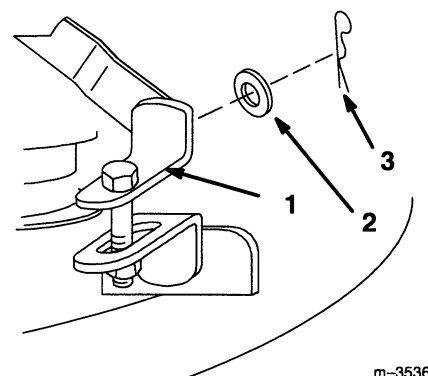

Figure 12
4. Remove (2) 2-9/16" hairpin cotters and (2) 1/2" washers from front adjustable links and remove from front lift arm (Fig. 12).